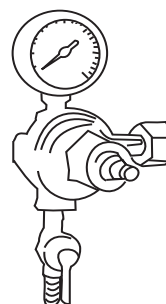

Figure 9
- Make sure the secondary shut-off valve (shown in figure 9 in 'Open' position) is closed. To open the main CO2 cylinder valve, slowly turn the main valve counter-clockwise until fully open.